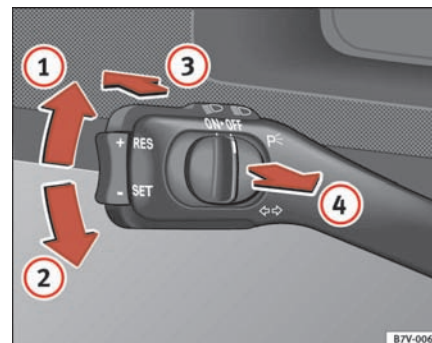

Fig. 74 Turn signal and main beam headlight lever
- Move the lever all the way up $\Rightarrow$ page 111, fig. 74 **1** to indicate **right**, and all the way down **2** to indicate **left**.